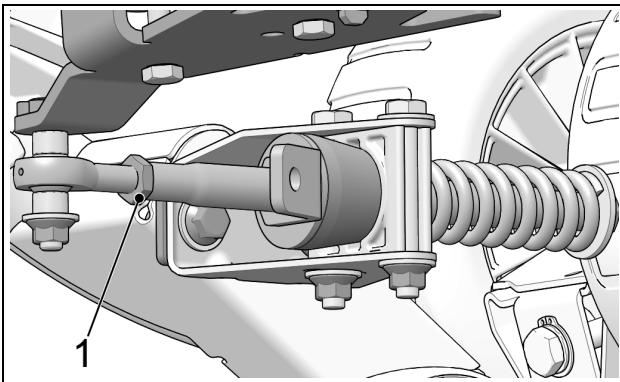

Figure 7
- When angle of attack is correctly set, tighten the jam nut (1) back against the stabilizing arm to 40 N·m [30lb·ft] of torque. See Figure 7.